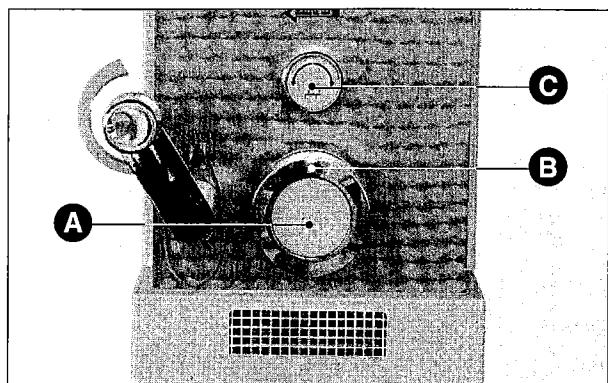

Fig. 3
- then make sure that the plastic cap (Fig. 3 A) which replaces the drawplate is correctly positioned and the ring nut (Fig. 3 B) is well-screwed on;
- finally block the mixer in its place, thanks to the head-knob (Fig. 3 C).